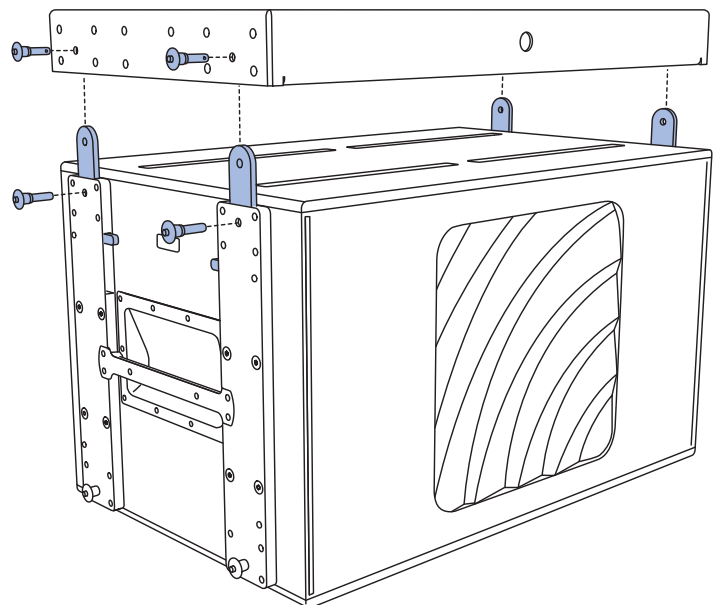

Figure 30. 2100-LFC GuideALinks Extended
5. Connect the MTG-2100 to the first stack of 2100-LFC cabinets (Figure 30).